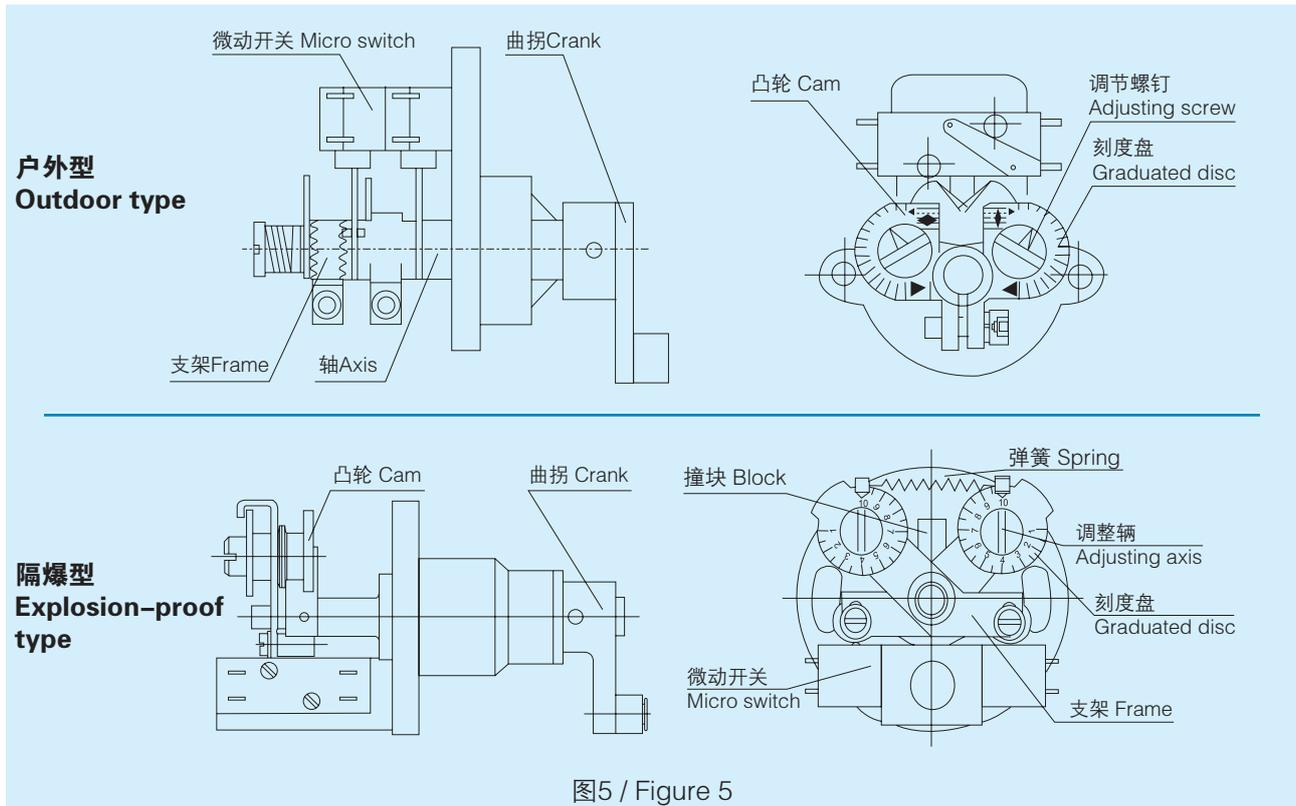

图5 / Figure 5
力矩控制器分户外型系列和隔爆型系列，其结构见图 5。
The torque controller is divided into the outdoor type and explosion-proof type. Refer to Figure 5 for the structure.
6.1 力矩控制器的调整(参见图 5) The adjustment for torque controller (refer to Figure 5)